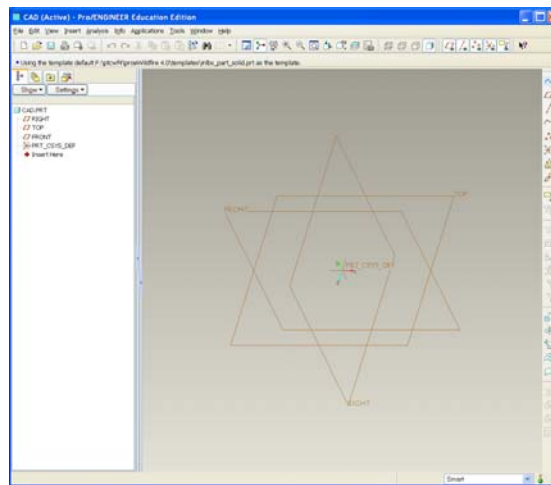

Figure 1.1 Start of the Part
4. Start of the part. The part contains some features already. The main graphics area shows 3 datum planes and a coordinate system as shown in Figure 1.1.